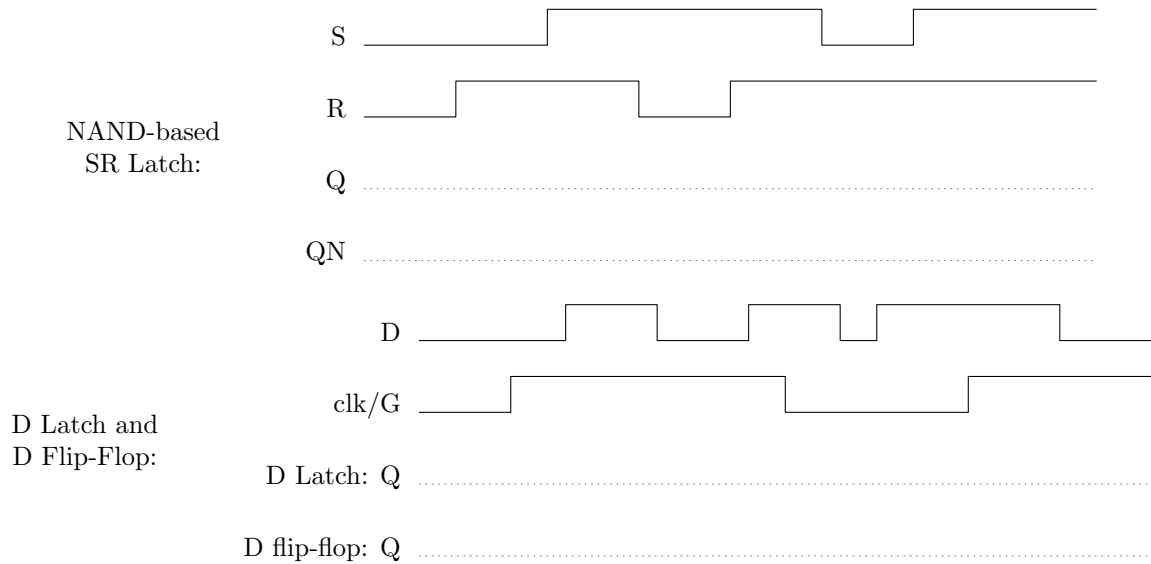

Figure 9.1: Test waveforms for pre-lab
3. Suppose you test the three memory units described in the links above with the waveforms shown in Figure 9.1. Print this page or re-draw the given signals on your own paper and draw the outputs (Q and QN). Use the NAND-based behavior for the SR latch.